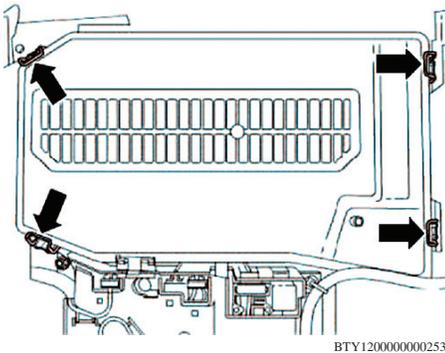

Fig. 3 Battery cover removal
10. Open battery box clips (arrows) and remove cover, **Fig. 3**.
1. Install bottom rail bracket (2), and **torque** bolt (1) to 88 inch lbs.
2. Install battery bracket (2), and **torque** bolt (1) to 79 inch lbs.
6. Install battery box cover, **Fig. 3**.